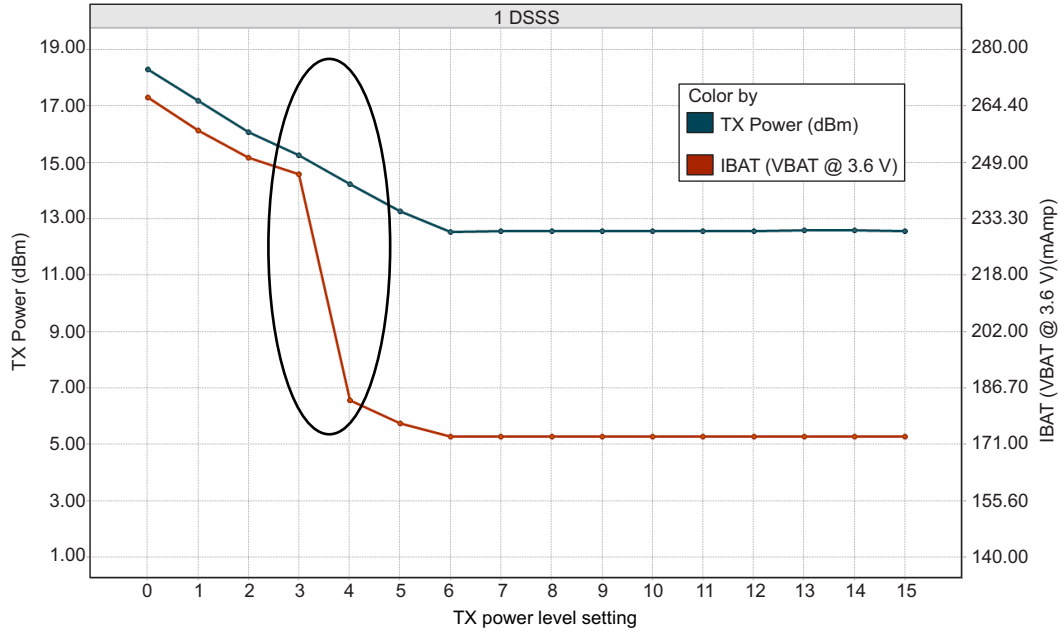
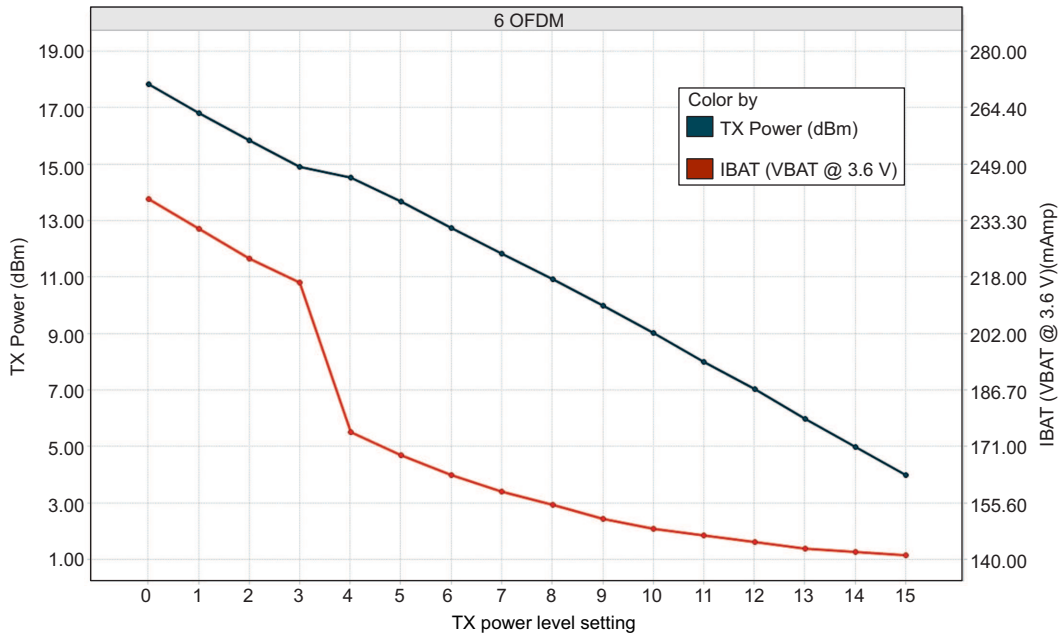
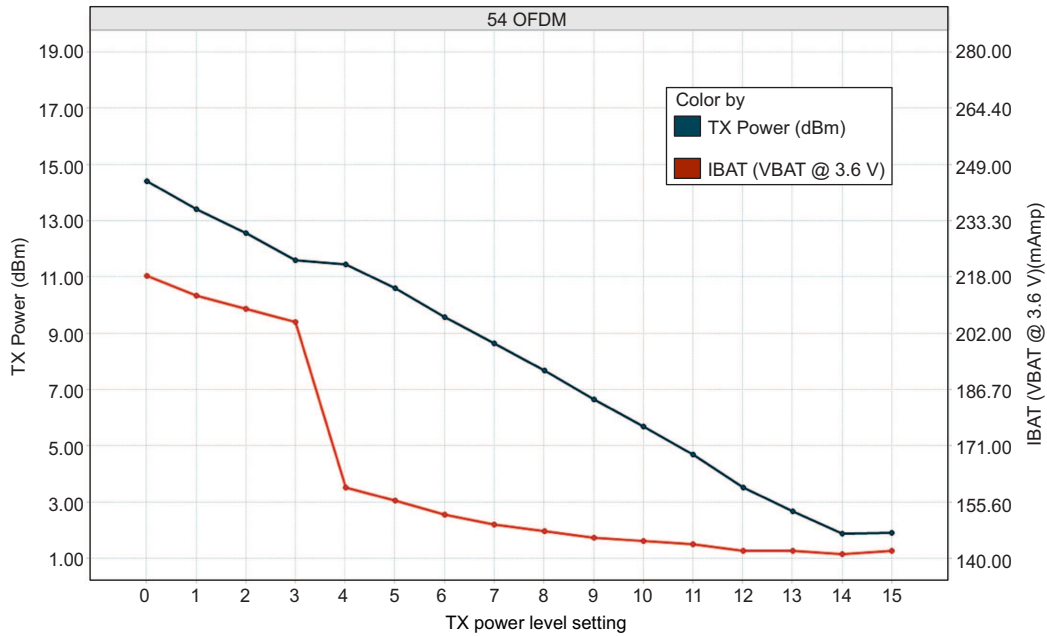

Figure 5-1. TX Power and IBAT vs TX Power Level Settings (1 DSSS)
Figure 5-2. TX Power and IBAT vs TX Power Level Settings (6 OFDM)
Figure 5-3. TX Power and IBAT vs TX Power Level Settings (54 OFDM)
- (1) TX power level = 0 implies maximum power (see Figure 5-1, Figure 5-2, and Figure 5-3). TX power level = 4 implies output power backed off approximately 4 dB.
- (2) The CC3235x system is a constant power-source system. The active current numbers scale based on the V_{BAT} voltage supplied.
- (3) Typical numbers assume a VSWR of 1.5:1.
- (4) DTIM = 1
- (5) LPDS current does not include the external serial flash. The LPDS number of reported is with retention of 256KB of MCU SRAM. The CC3235x device can be configured to retain 0KB, 64KB, 128KB, 192KB, or 256KB of SRAM in LPDS. Each 64-KB block of MCU retained SRAM increases LPDS current by 4 μA .
- (6) The complete calibration can take up to 17 mJ of energy from the battery over a period of 24 ms. Calibration is performed sparingly, typically when coming out of HIBERNATE and only if temperature has changed by more than 20°C. The calibration event can be controlled by a configuration file in the serial flash.
Figure 5-1, Figure 5-2, and Figure 5-3 show TX power and IBAT versus TX power level settings for the CC3235S device at modulations of 1 DSSS, 6 OFDM, and 54 OFDM, respectively. For the CC3235SF device, the IBAT current has an increase of approximately 10 mA to 15 mA depending on the transmitted rate. The TX power level will remain the same.
In Figure 5-1, the area enclosed in the circle represents a significant reduction in current during transition from TX power level 3 to level 4. In the case of lower range requirements (14-dBm output power), TI recommends using TX power level 4 to reduce the current.